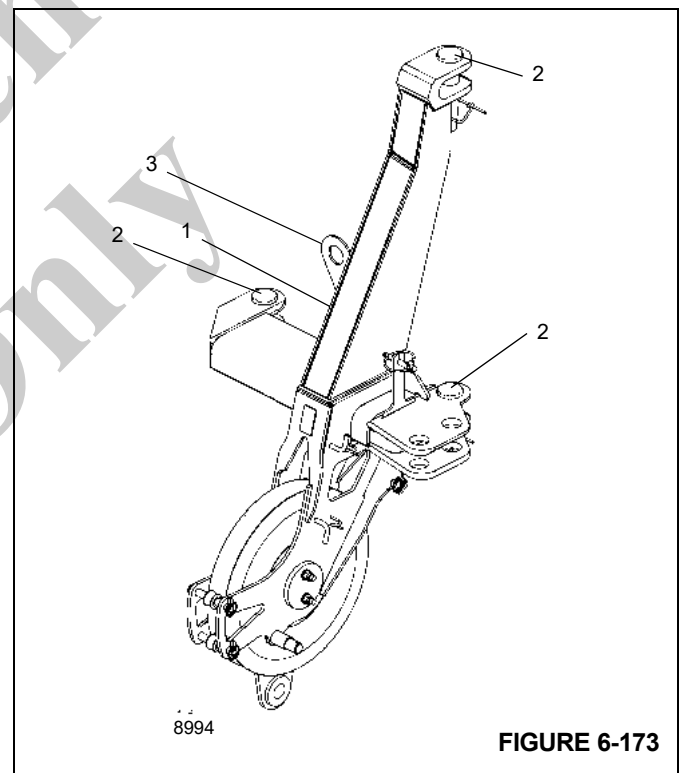

FIGURE 6-173
The serial number (1) is on a plate, on the right side on the auxiliary single-sheave boom nose (Figure 6-173).
1. Remove the retaining clips from the pins (2) and remove the pins from the attachment lugs (Figure 6-173).
2. Use an auxiliary crane attached to the lifting eye (3) on the auxiliary boom nose and lift it to the front of the main boom head.